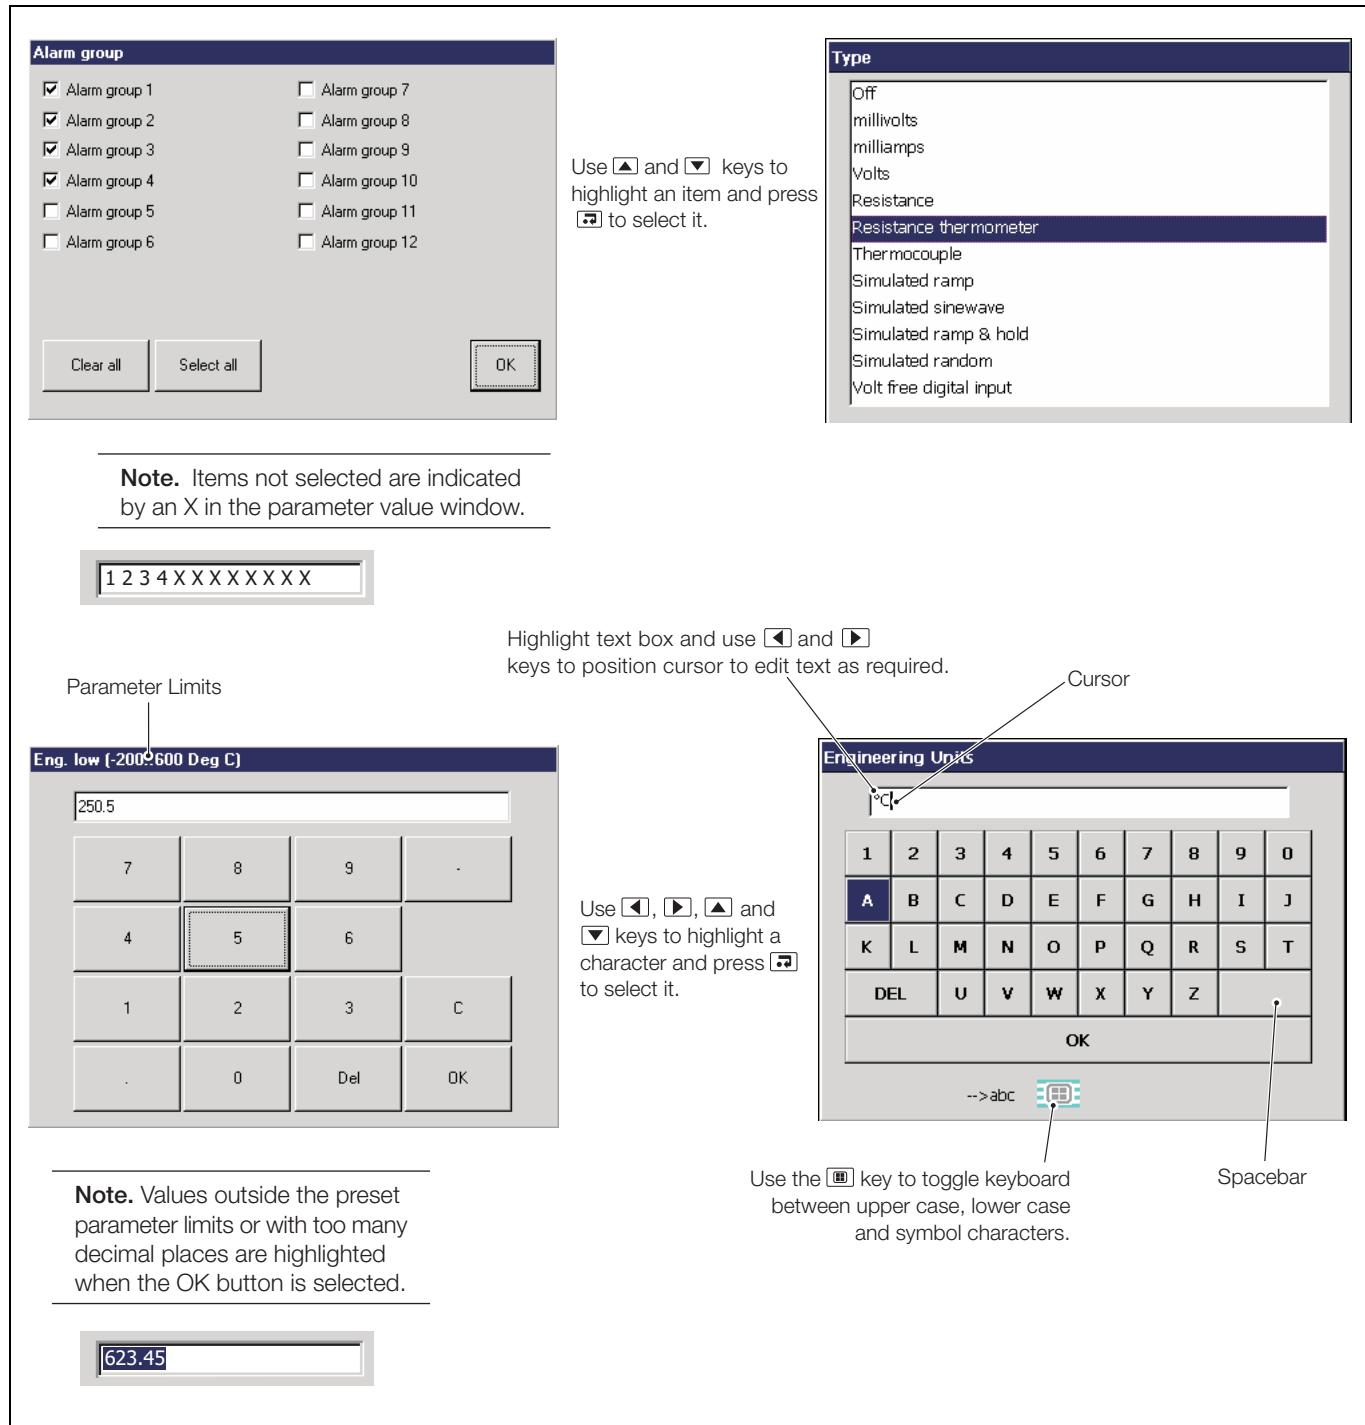

Fig. 6.5 Parameter Selection Windows/Data Entry Dialog Boxes
1. The appropriate parameter selection window or data entry dialog box is displayed automatically – see Fig. 6.5, page 56.